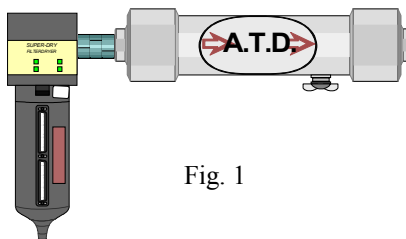

Fig. 1
- It is highly recommended to install a coalescer filter (FC1/2 or FC1(MB)) before the desiccant dryer. The coalescer filter will prevent any water, rust and oil from contaminating the desiccant (Fig. 1).